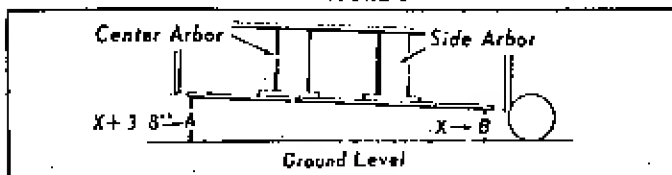

FIGURE 4
4. Check the mower for proper tilt by placing it on a smooth flat surface. Measure the height of the front tip of the center blade and the rear tips of the side blades, (Fig. 4). The front tip should be about 1/4" to 3/8" higher than the rear tips. To obtain this relationship, move each eye bolt on the adjusting arms as necessary.